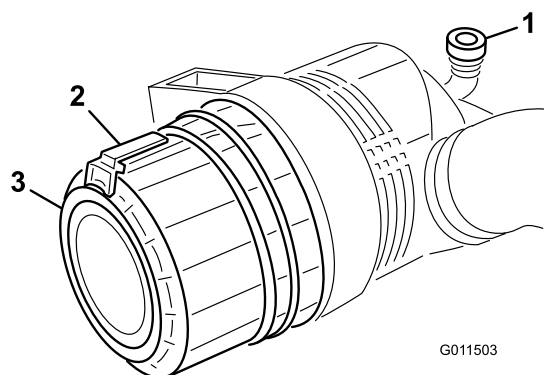

Figure 51
1. Pull the latch outward and rotate the air cleaner cover counterclockwise (Figure 51).